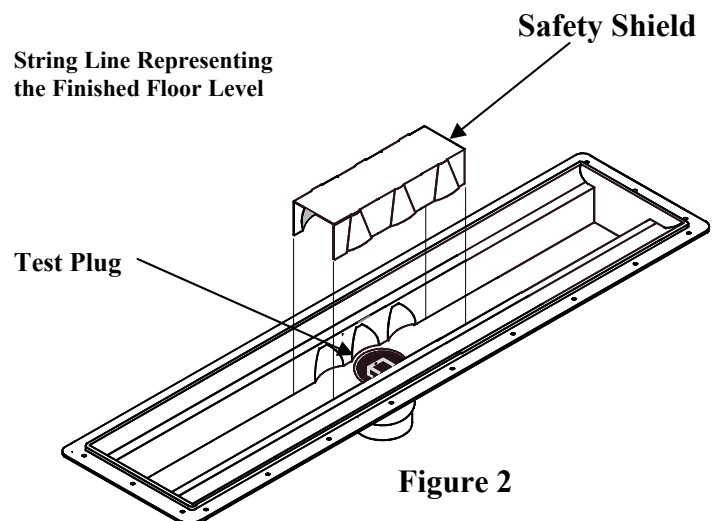

Figure 2
Important Note to the Plumber: Pressure testing must be performed with the Channel Drain glued in place. There is a test plug (see Figure 2) already installed and a plastic construction shield secured by screws and taped in place to prevent debris and construction material from entering the Channel Drain during construction. (Because the Channel Drain is an un-blockable fitting, no other suction fitting is necessary.) The maximum flow rate of the Channel Drain, certified by the NSF, is 227 GPM (1.1 ft/sec) for Dual-suction & 196 GPM (1.0 ft/sec) for Single Suction. **Maximum flow rate is not to be exceeded! NEVER INSTALL THE CHANNEL DRAIN IN A SEAT OR A BACKREST AREA!**
4. Install the Safety Shield(s) with the supplied glue packet (see Figure 2 and 4).